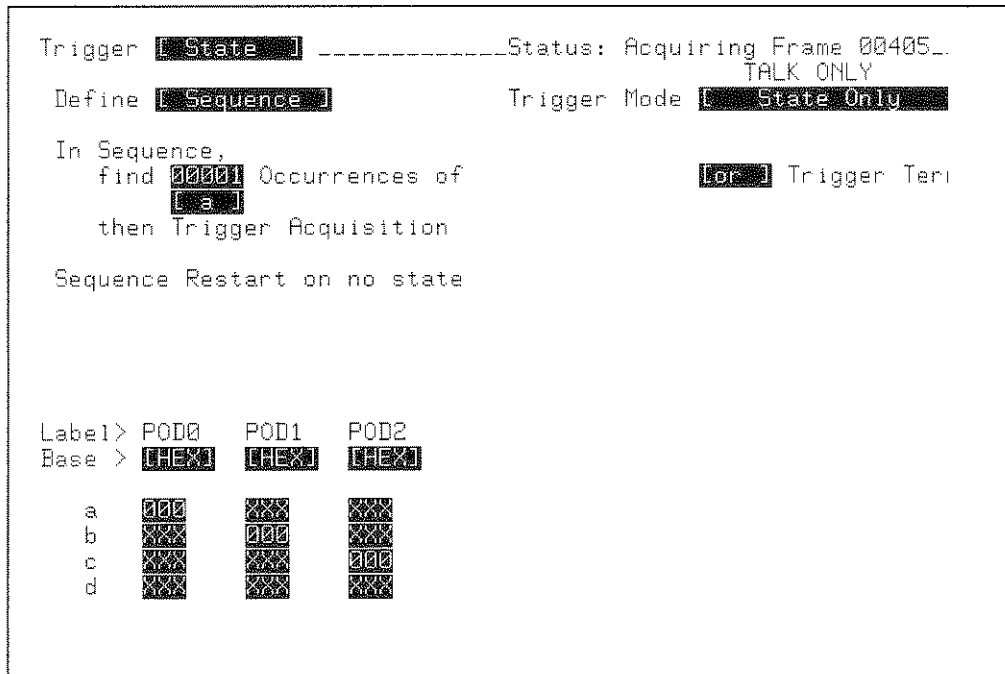

Figure 9-18. TRIGGER State / Define [Sequence] Menu
5. Configure the TRIGGER State / Define [Sequence] menu as shown in figure 9-18.
17. Repeat steps 12 through 15 for POD 1, with the following change: in step 5, reconfigure the menu in figure 9-18 with "Occurrences of [ b ]".
19. Repeat steps 12 through 15 for POD 2, with the following change: in step 5, reconfigure the menu in figure 9-18 with "Occurrences of [ c ]".